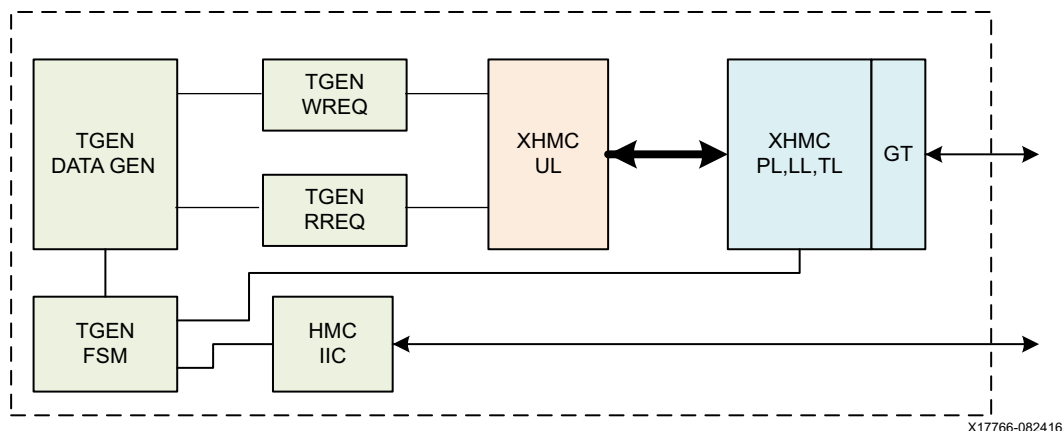

Figure 5-1: XHMC Example Design Block Diagram
As illustrated in Figure 5-1, a generated XHMC core consists of the GT sub-core, XHMC Physical Layer (PL), Link Layer (LL), and Transaction Layer (TL). According to the IP interface configuration, the user layer logic can be either embedded inside the XHMC core or instantiated at the example design with the source codes encrypted. Besides the XHMC core modules, the example design includes a system control state machine (TGEN FSM), a Traffic data generation (TGEN DATA GEN), AXI4MM write channel control (TGEN WREQ), AXI4MM read channel control (TGEN RREQ), a hardware state machine, and IIC interface logic for device initialization.